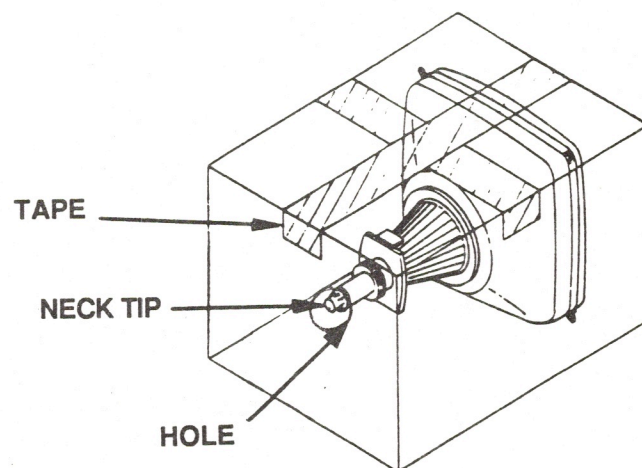

FIGURE 5
3. Place the CRT inside the box with the tip of the neck protruding through the hole, and tape the box flaps down with the duct tape (Figure 5).